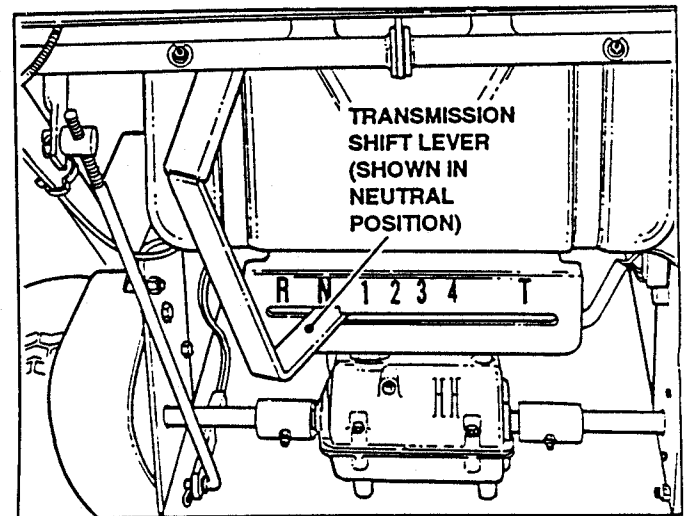

FIGURE 4
3. Place Transmission Shift Lever in **NEUTRAL**(N) position. See Figure 4.